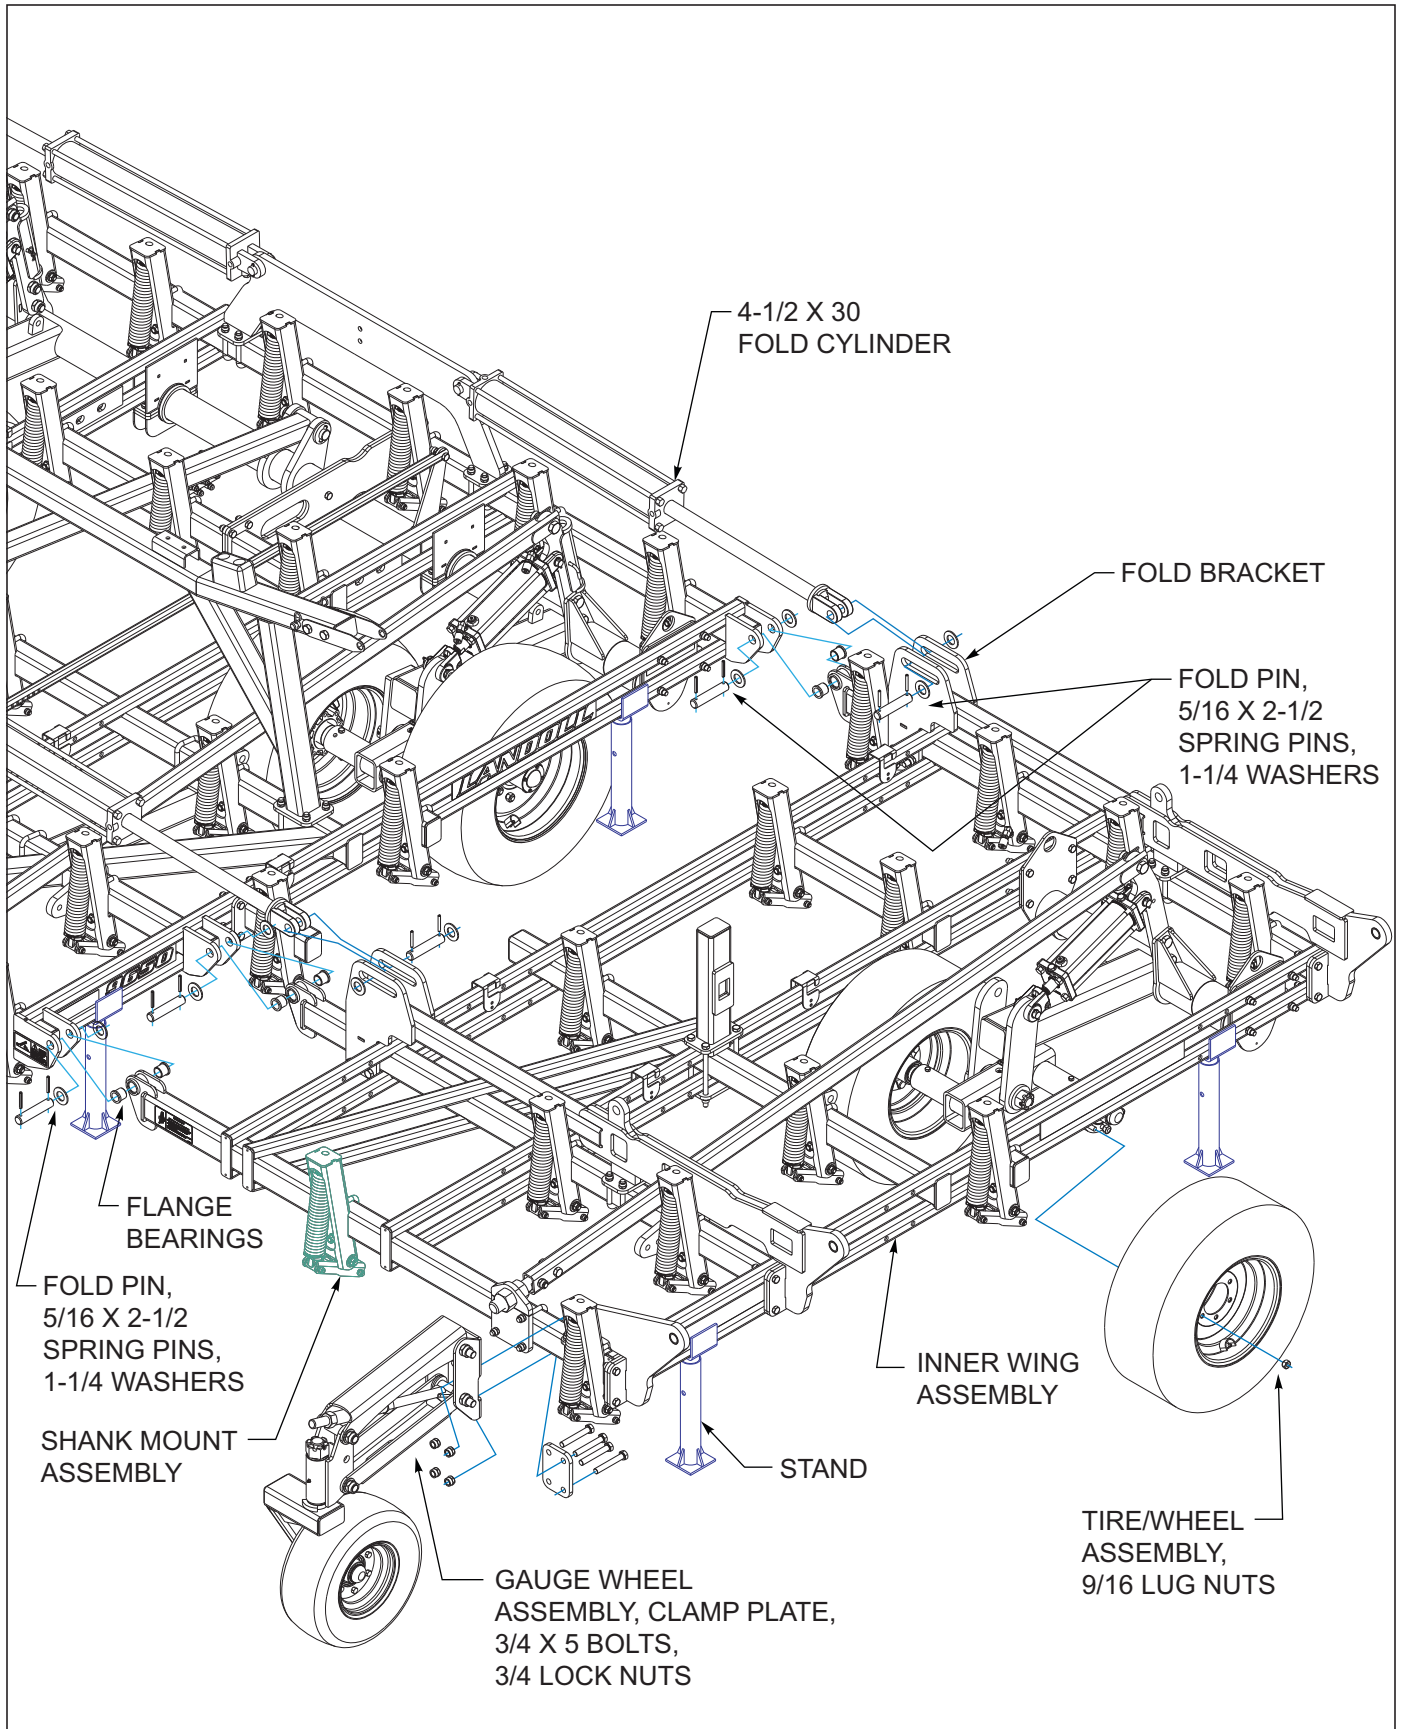
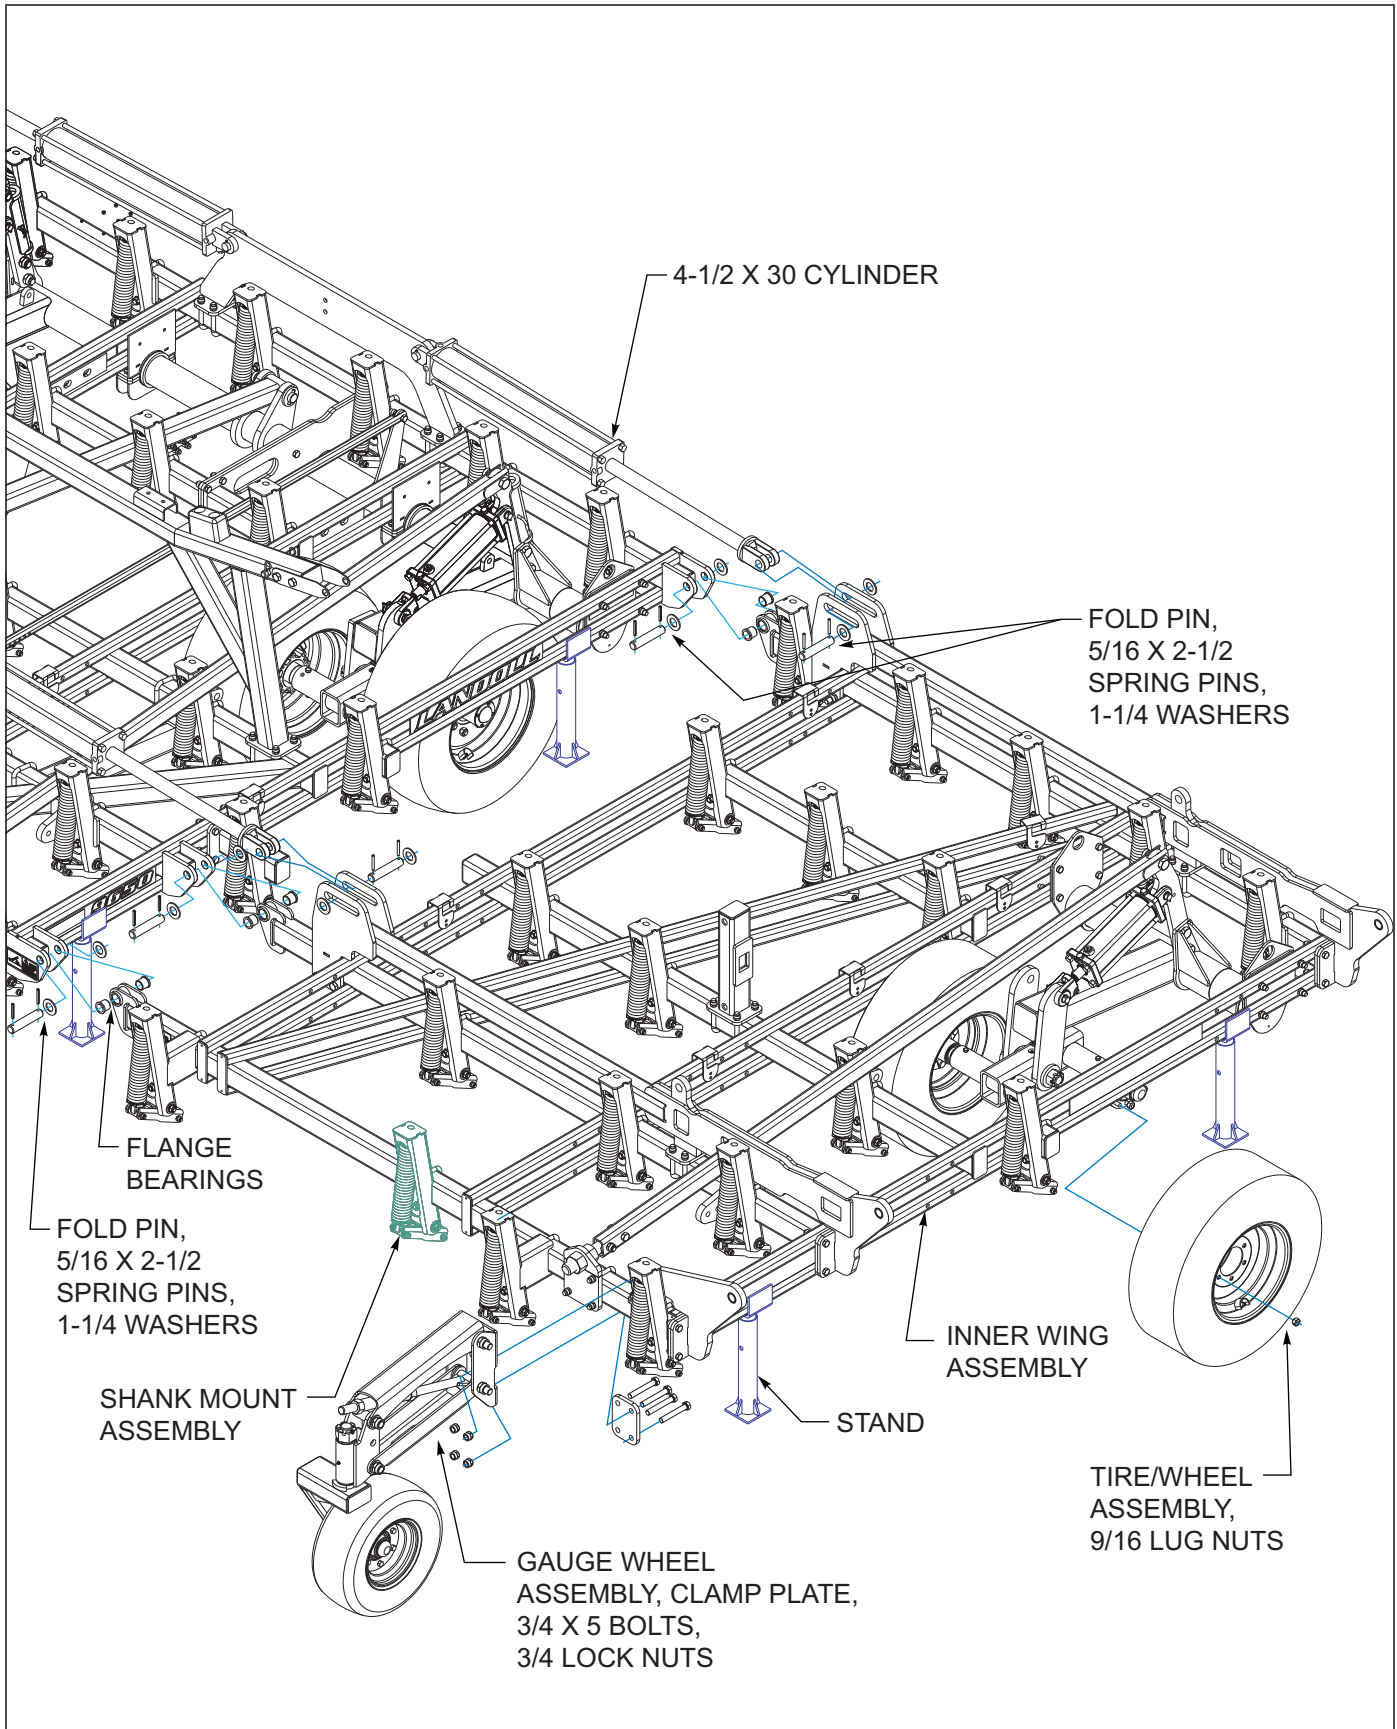

Figure 3-4: 8' Inner Wing Assembly 9650-38'-42'
Figure 3-5: 10' Inner Wing Assembly 9650-46'-50'
1. Attach inner wing frames to center frame using flange bearings, 1-1/4 washers, fold pin and 5/16 x 2-1/2 spring slotted pins, 9650-38'-42' *See Figure 3-4* or 9650-46'-50' *See Figure 3-5*.
5. Attach rod end of 4-1/2 x 30 fold cylinder to fold brackets with 1-1/4 washers, fold pin and 5/16 x 2-1/2 spring slotted pins, 9650-38'-42' *See Figure 3-4* or 9650-46'-50' *See Figure 3-5*.
1. Attach the gauge wheel assembly to inner wing assembly with clamp plate, 3/4 x 5 bolts and 3/4 lock nuts, 9650-38'-42' *See Figure 3-4* or 9650-46'-50' *See Figure 3-5*.